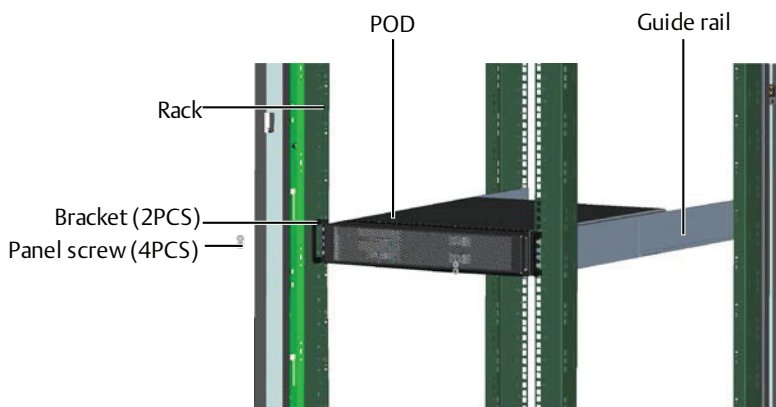

Figure 3-6 Installing the POD
3. Place the POD onto the guide rails of the rack, and push the POD completely into the rack. Use four panel screws (M6 × 16) to fix the POD on the rack through the brackets, as shown in Figure 3-6.